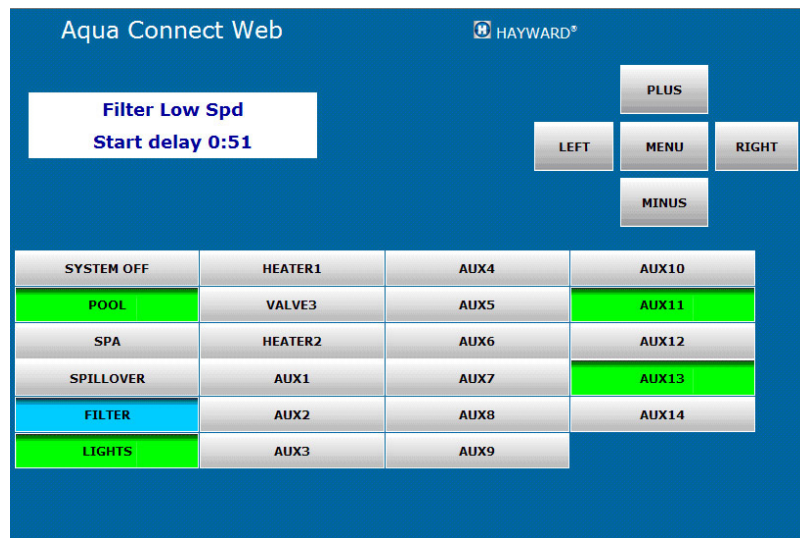
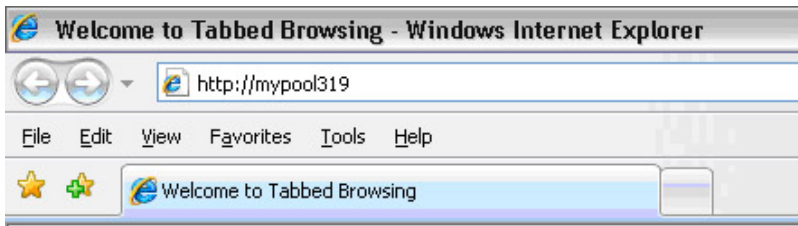

Figure 1
Figure 2
The local server will automatically take the appearance of the pool control's interface. A sample screen of the local server for a PS-16 controller is shown below in Figure 1.
**Accessing the local Server using the ACHN's URL** - the ACHN uses its unique Media Access Control (MAC) address to identify and access its local server. The MAC address for each ACHN is located on the bottom of each device. The MAC is a string of the form **00:23:62:00:wx:yz** where "**wxyz**" represents a string of valid hexadecimal characters (0-9 and A-F are valid). To start the local server, type the ACHN's Uniform Resource Locator (URL) into your web browser's address field. The local server's URL (i.e., logical name) is the string "**mypoolxyz**" where the "**xyz**" consists of the last three digits of the ACHN's MAC address. For instance the URL of the ACHN shown in Figure 1 is "**mypool319**" because its MAC address ends in "**319**". Do not type www or any other prefix. Do not put .com or .org or anything else at the end. Just enter "**mypool319**" into the address field at the top of the browser as shown in Figure 2.